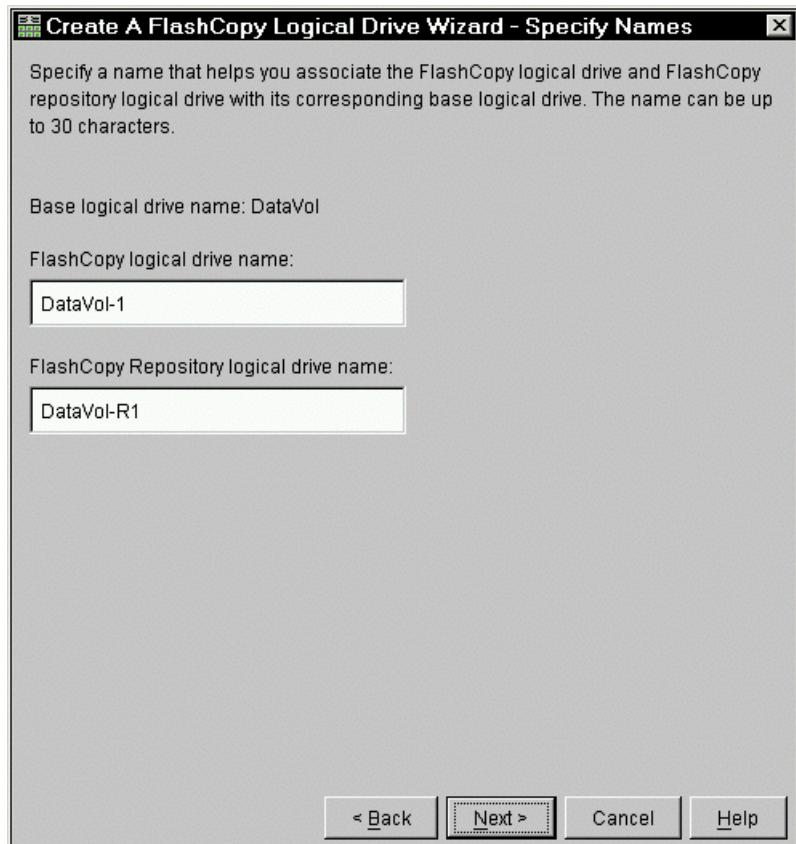

Figure 5-15 Specify Names
- On the Specify Names window (Figure 5-15), you define the FlashCopy logical drive name and the name of its associated FlashCopy repository logical drive.